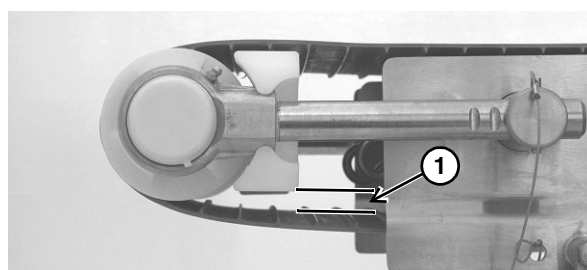

Figure 37
- Some belt sag (**Figure 37, item 1**) is required for proper operation.